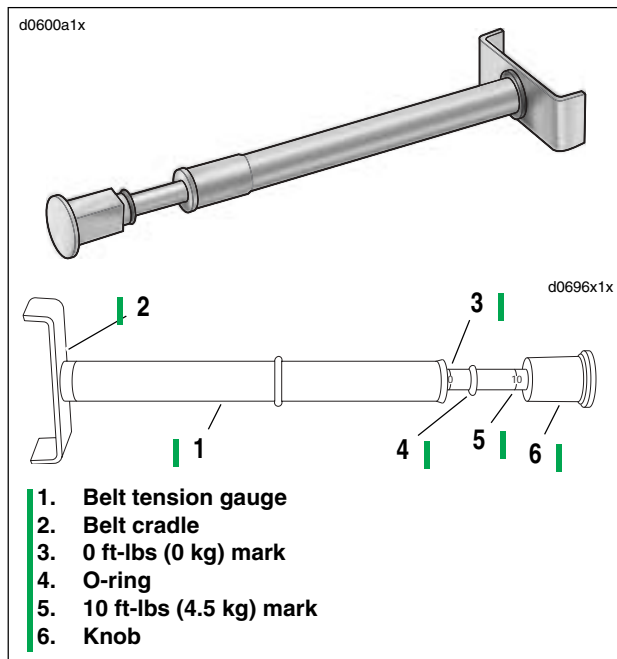

Figure 1-25. Belt Tension Gauge (Part No. HD-35381)
1. See Figure 1-25. Obtain BELT TENSION GAUGE (HD-35381).